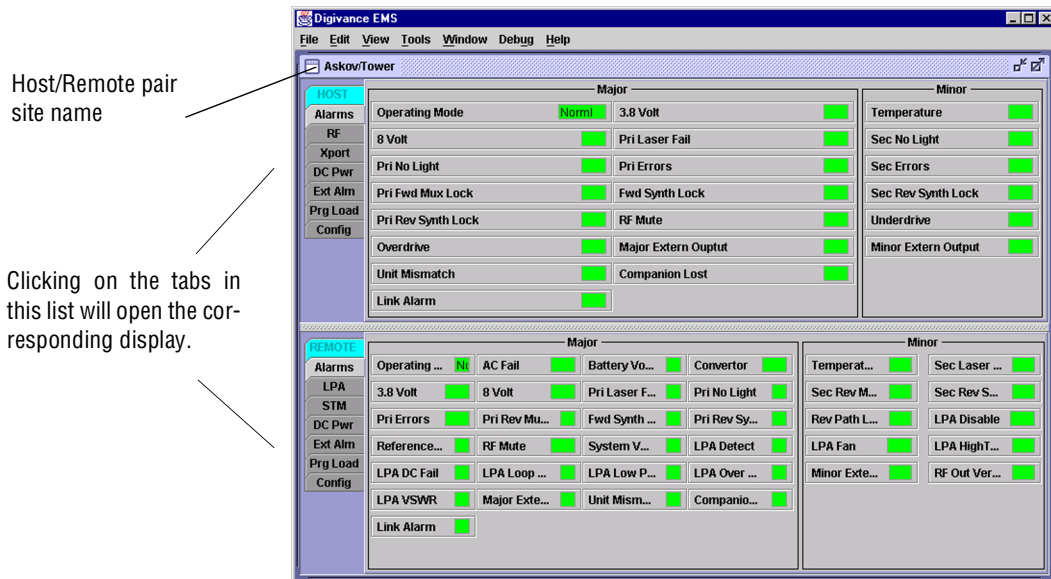

Figure 4-2. Selecting Display Tabs
9. Open the **View** drop down menu and connect to the Host and Remote pair by selecting “NotNamed/NotNamed”. The **HOST Alarms** display and the **REMOTE Alarms** display will open within the main window as shown in Figure 4-2.
11. Click on the **HOST Config** tab and on the **REMOTE Config** tab (see Figure 4-2). The **HOST Config** display and the **REMOTE Config** display will open within the main window.
15. Click on the **HOST RF** tab (see Figure 4-2). The **HOST RF** display will open within the main window.
20. Click on the **REMOTE LPA** tab (see Figure 4-2). The **REMOTE PA** display will open within the main window.
22. Click on the **HOST RF** tab (see Figure 4-2). The **HOST RF** display will open within the main window.